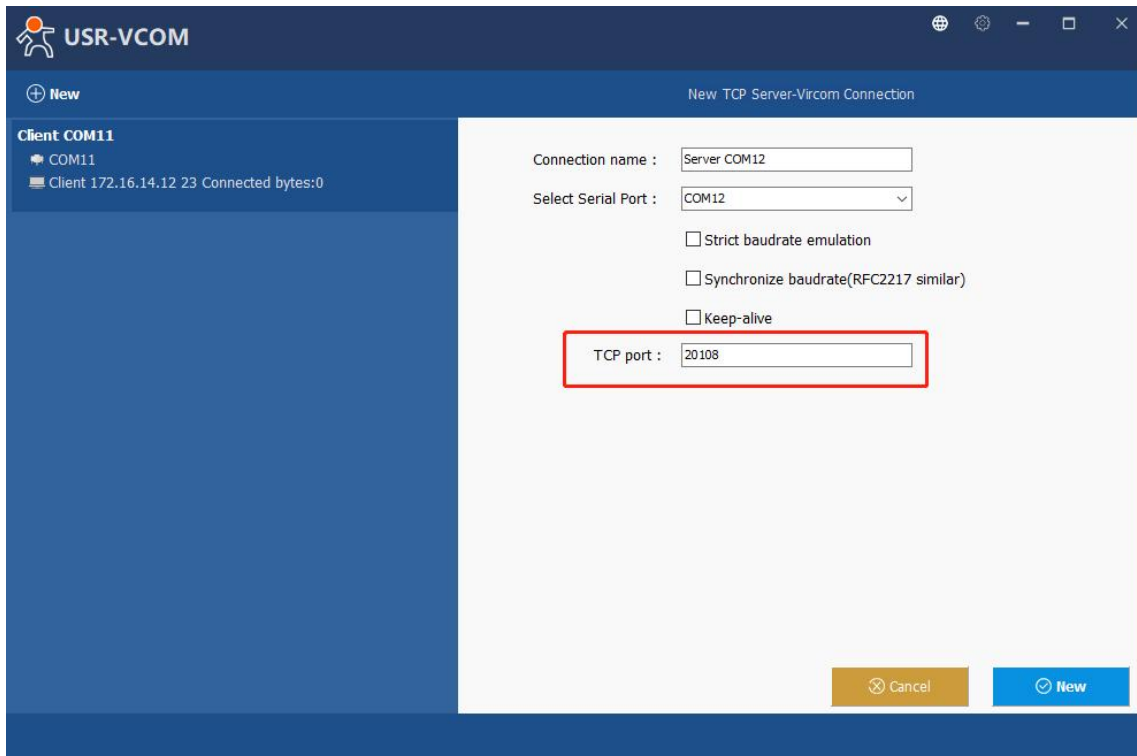

Fig. 76 Virtual COM port mapping
2. Select one COM port as the Virtual COM port before proceeding as shown in Fig.76. Note that if a COM port number is used by other application or your operating system, you can not select it.